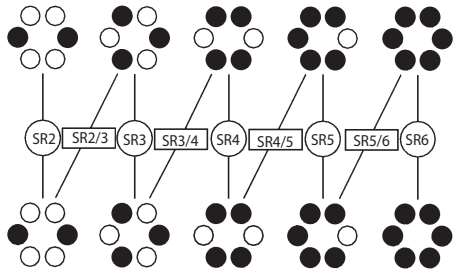
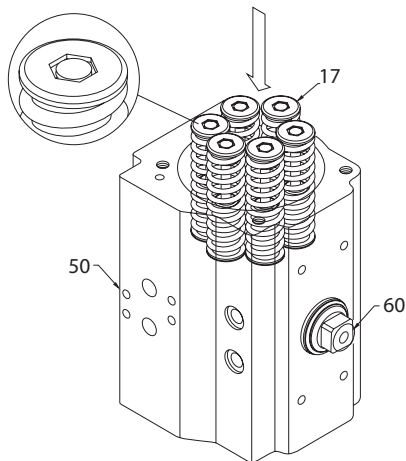
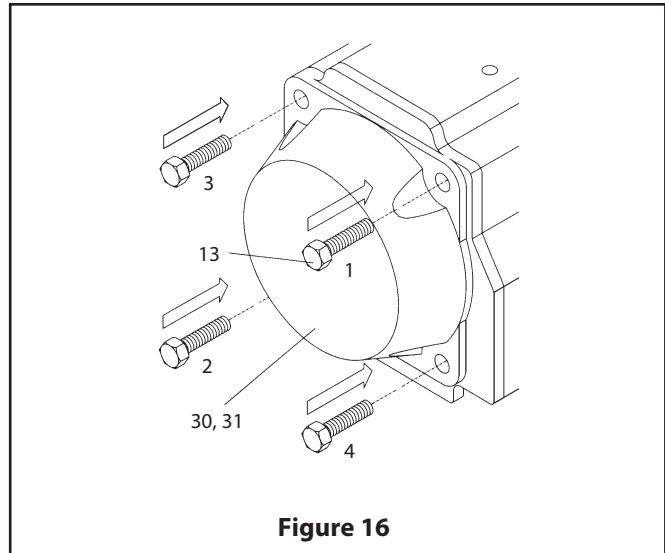

Figure 14
Figure 15
Figure 16
3. End Cap (30, 31) and Spring Cartridge (17) Assembly, **(Figures 14 through 16)**:
- A. For spring-return actuators, insert the proper quantity of spring cartridges (17) according to the pattern shown in **(Figure 14)** (referring to the total number of springs). Insert spring cartridges (17) as shown in **(Figure 15)**.
- B. Apply grease to the end-cap o-ring seals, using the recommended o-ring-area grease listed in **(Table 2)**. Fit the end-cap o-ring seals (14) into the groove in each end cap (30, 31).
- C. Fit the end caps (30, 31) onto the body (50), verifying that the o-ring seals (14) remain in the grooves.
- D. Insert all end-cap screws (13) and hand tighten. Complete tightening by following the sequence indicated in **(Figure 16)**, using torques listed in **Table 4**.